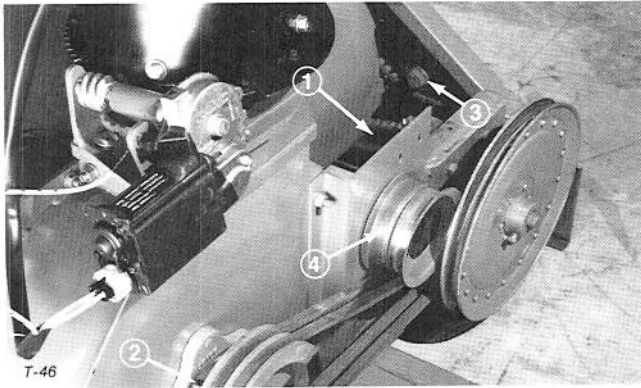

Figure 18
1. Lubricate the auger drive chain with SAE 30 engine oil after each use (Fig. 18).
2. Grease the impeller shaft bearing every 40 hours with No. 2 general purpose Lithium base grease (Fig. 18).
1. Remove shield and check tension. Belts should have 1/4 inch deflection when 5-6 lb. force is applied to center of belts (Fig. 18). If tension is correct, continue operation. If tension is incorrect, proceed to item 2.
2. Loosen locknut securing idler pulley and push downward on idler to move it downward in the mounting slot (Fig. 18). Adjust to proper tension and tighten locknut.
1. Measure the deflection on the lower span of the chain (Fig. 18). If deflection is less than 1/4 inch midway between the sprockets, continue operation. If deflection is more than 1/4 inch, proceed to item 2.
2. Loosen adjusting bolt and slide idler downward until proper deflection is obtained (Fig. 18).